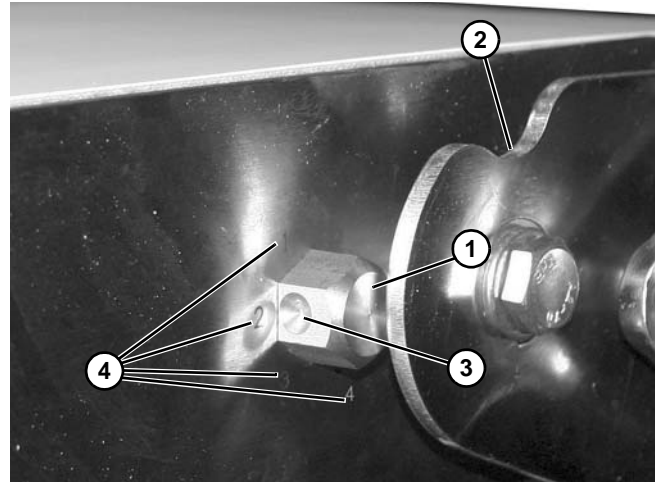

Figure 49
- Rotate idler end so that hex bar (Figure 49, item 1) fits into notched area (Figure 49, item 2).
- Adjust dimpled side (Figure 49, item 3) of hex bar into one of four locations (Figure 49, item 4) (labeled 1-4 on conveyor).
Each rotation of hex bar is approximately 2.5 mm (0.10") of elevation change of tail. The elevation of change of tail is as follows (Figure 49):